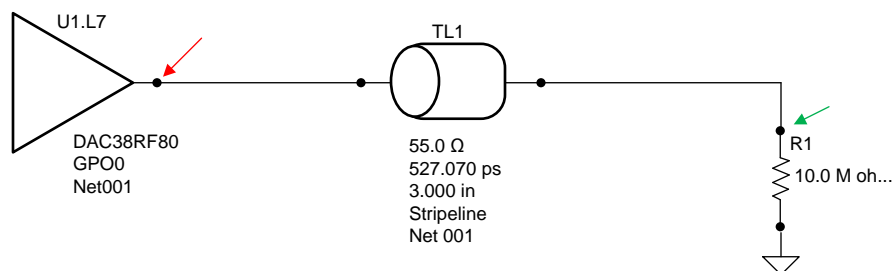

Figure 9. Signal Integrity Simulation Circuit – HyperLynx
18. Click on the Interactive Simulation icon. Figure 9 shows the complete circuit.